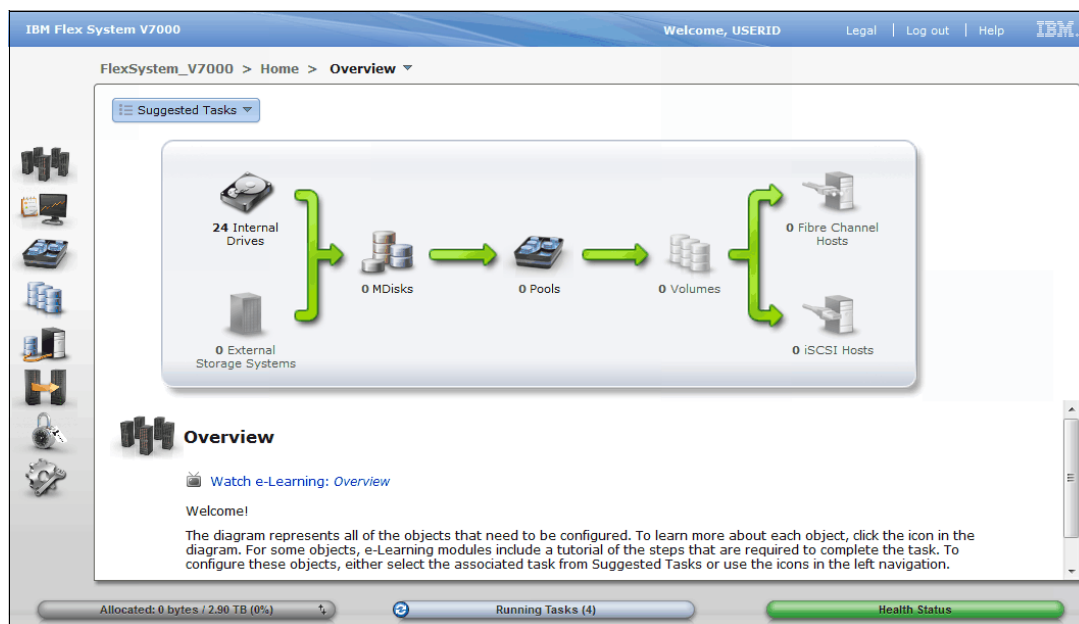

Figure 4-22 IBM Flex System V7000 Storage Node Home Overview window
- After successful login, the IBM Flex System V7000 Storage Node Home Overview window is shown in Figure 4-22 on page 166.